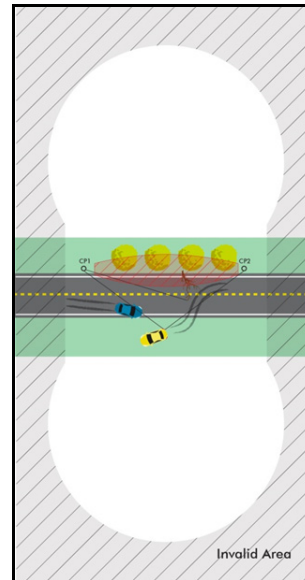

Figure 10
Feature locations that produce poor or invalid data points (Figure 10). Features that fall in the hatched area (1) between the control points or outside of the figure '8' shape will be difficult to map. Set new control points to map those features (Page 51).
Geometry Warning - If the feature (data point) being mapped falls into the invalid area (Figure 10), it can present a possible error. The user can choose to accept marginal data and add the point anyway or select cancel and re-measure the point.